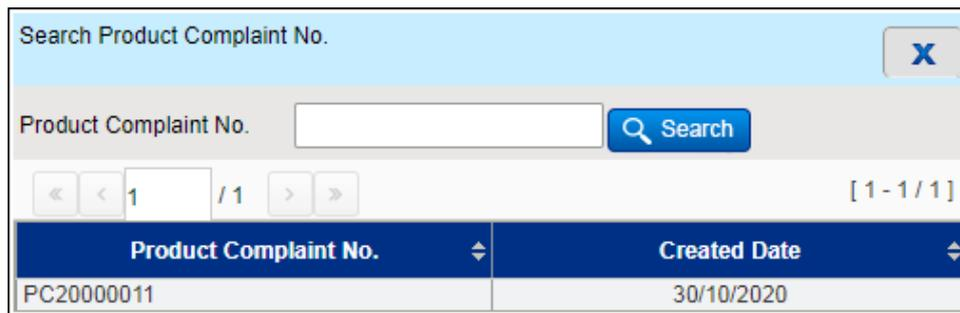

Figure 3.1.2-3 Search Product Complaint No.
- System will display the Search Product Complaint No. window as shown in Figure 3.1.2-3.
- This field allows the user to enter partial or full criteria for Product Complaints No. and click on the  button. Double-click to select a Product Complaint No. and the details of the item(s) will be displayed as shown in Figure 3.1.2-2.